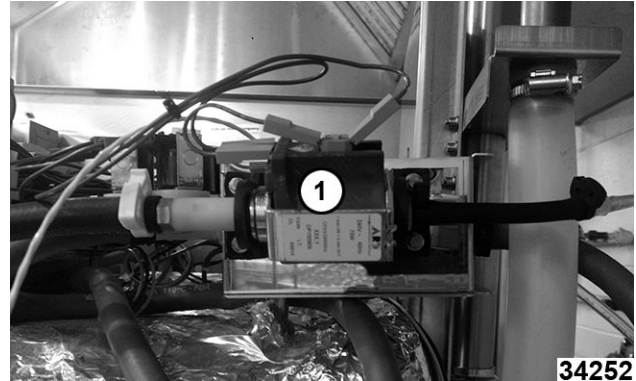

Fig. 53
3. Disconnect hose from detergent pump (1, Fig. 53).